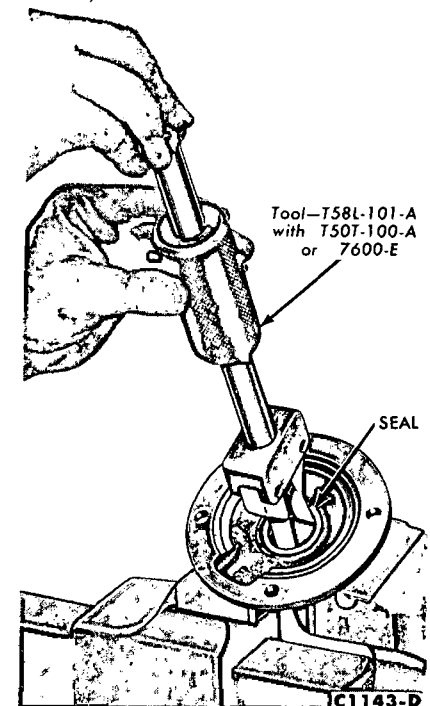

FIG. 11—Removing Input Shaft Seal
1. Remove the input shaft seal from the front bearing retainer as shown in Fig. 11.